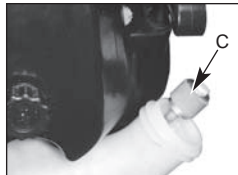

Fig. 24
2. Pull off fuel filter (D) with a twisting motion.(Fig. 24).
3. Replace fuel filter.(Fig. 24).